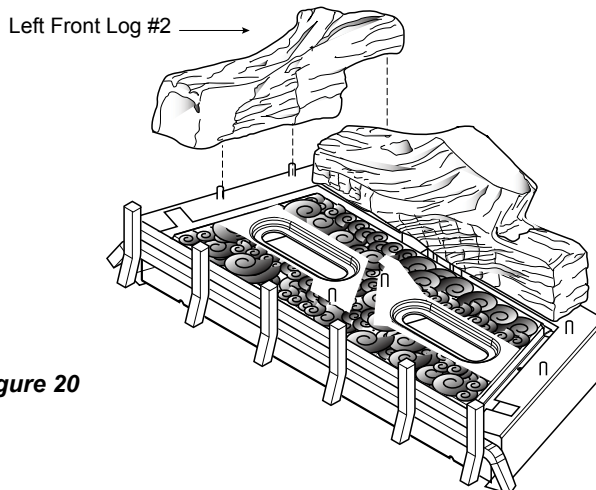

Figure 20
5. Align holes in the bottom of the left base log #2 with two (2) pins on the left side of insert. Install left base log. *Figure 20*